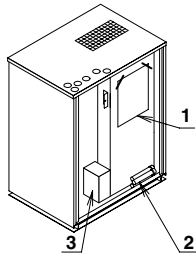
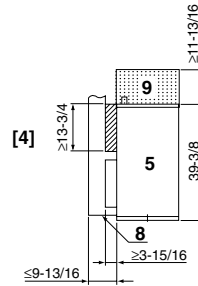

figure 1
figure 2
- Install the joint horizontally so that the caution label attached to joint comes to the top. Do not tilt the joint more than ±15°. (See Fig. 1), in addition, do not install the joint vertically. (See Fig. 2)